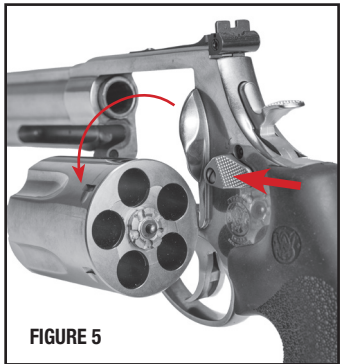

FIGURE 5
- With your finger off the trigger and outside of the trigger guard (FIGURE 5), keep the barrel of the firearm pointed in a safe direction. Press the thumbpiece fully forward and hold it, then push the cylinder to the left (FIGURE 6).